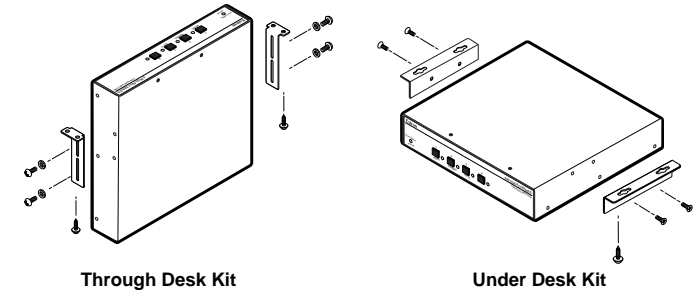

Figure 2-2 — Under surface or through surface mounting
1. Attach the mounting brackets to the switcher with the provided machine screws (figure 2-2).